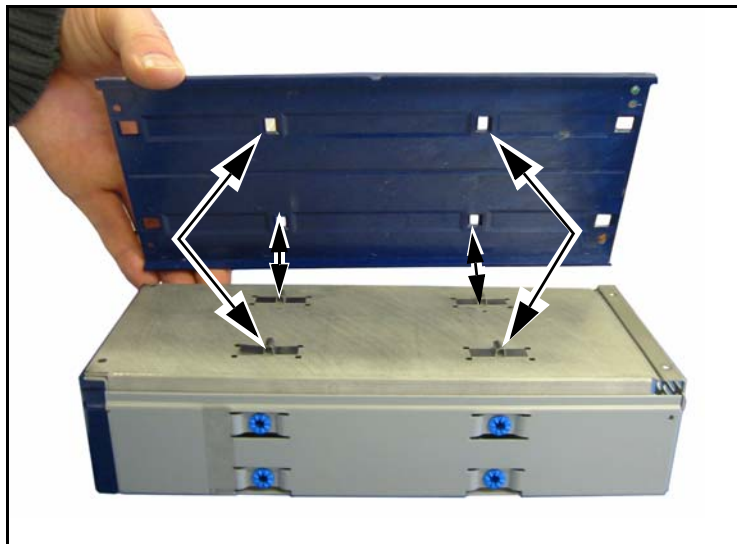

Figure 3-18 Matching the bottom plate to the ESD panel.
9. Replace the bottom plate on the pack, making sure that it matches up with the tabs on the ESD panel (Figure 3-18).